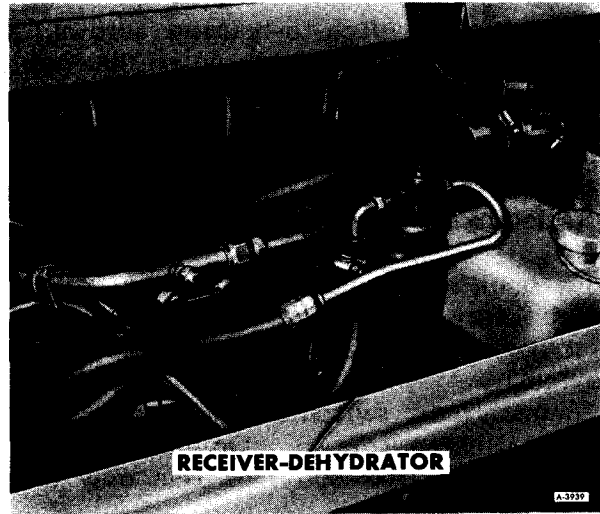

Figure 66—Lines to Receiver-Dehydrator
3. Disconnect receiver-dehydrator inlet and outlet connections, being sure to use a wrench on the square portion of the receiver-dehydrator for support. This will prevent twisting and possible breaking of the aluminum lines (refer to figure 66).